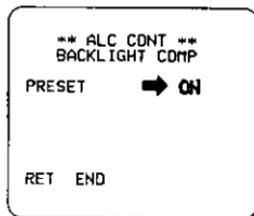

Fig. 52
- Move the cursor to the "PRESET" mode position and select the "ON" mode by using the Left Switch (<) (9) or Right Switch (>) (8). The preset mode menu is displayed on the monitor screen as shown in Fig. 52.